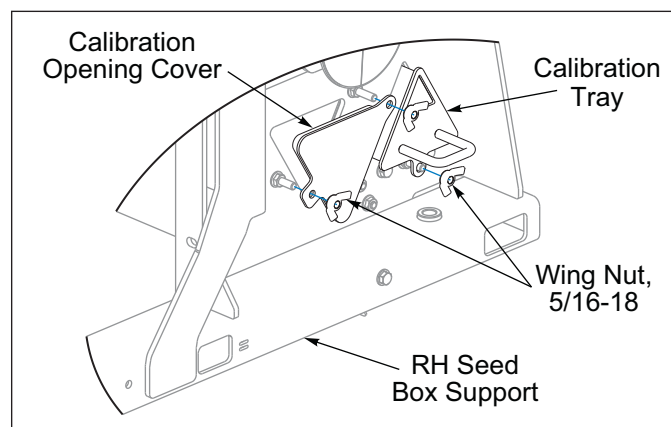
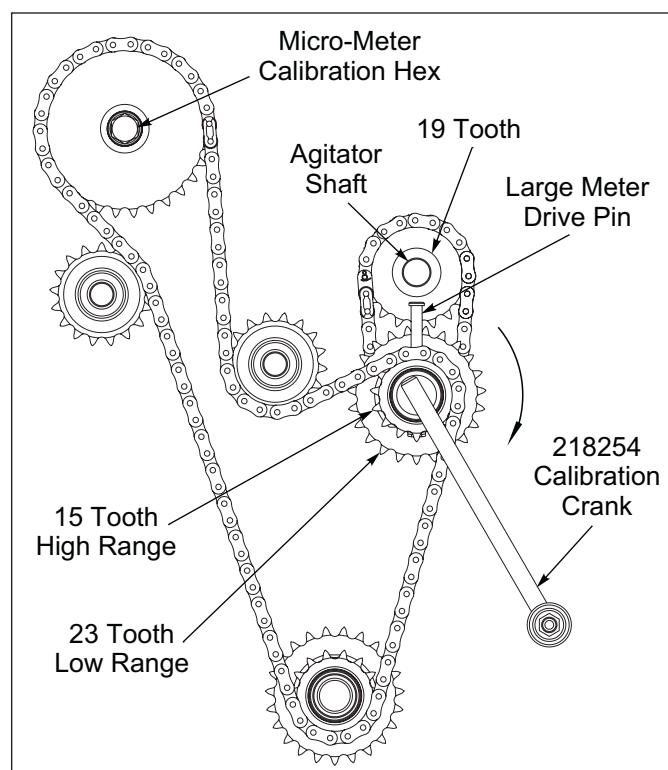

Figure 3-18: Calibration Tray Storage Position
Figure 3-20: Large Meter Box Calibration
8. Place Calibration Tray back in storage position. **See Figure 3-18.** Re-install Calibration Opening Cover over the opening in the RH Support Plate with 5/16-18 Wing Nuts.
4. Remove Large Meter Drive Pin. **See Figure 3-20.**
5. Turn transmission Large Meter Shaft Calibration Hex 337 revolutions clockwise (CW) for low range or 517 revolutions clockwise (CW) for high range with provided crank. 56 low range or 86 high range turns may be used if results are adjusted as stated in Step 6.